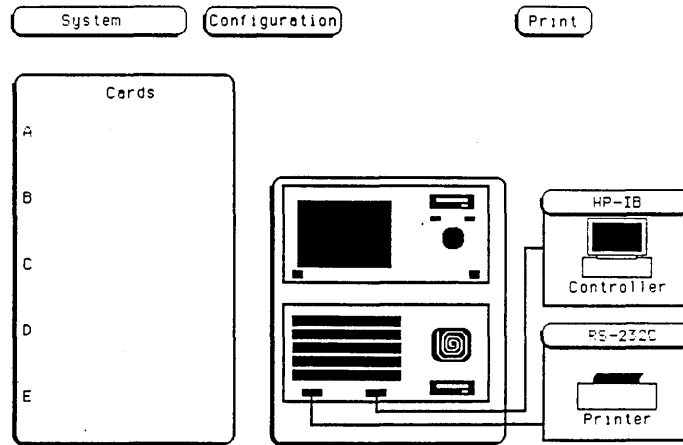

Figure 2-5. System Configuration menu.
1. Cycle power or touch the upper left corner field. Touch the **System** field to obtain the System Configuration menu (see figure 2-5).